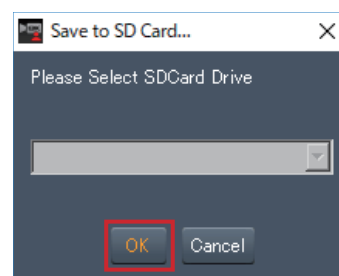

Fig. 2
- 4 Select the SD card to save to and click [OK]. (Fig.2)